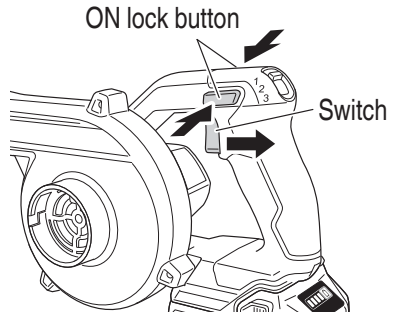

Fig. 12
- Switch operation (Fig. 12).
- Continuous operation (Fig. 12)